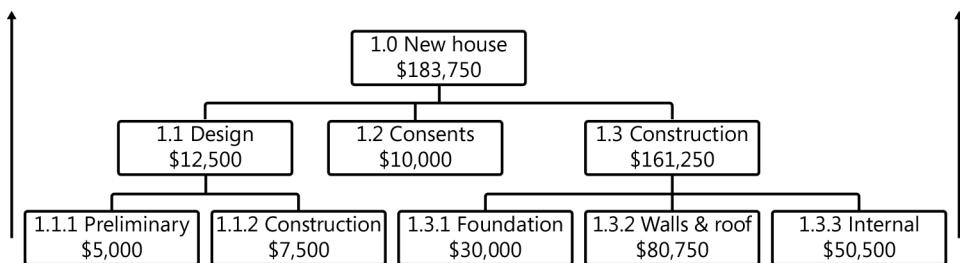

FIGURE 5-2 In bottom-up cost aggregation, individual activities are added up, or aggregated.
*Cost aggregation* is the process of taking the individual estimates for each of the activities and aggregating upward to work package level, then rolling these estimates up to high level, sub-deliverable level, and deliverable level, in order to arrive at a bottom-up estimate for portions of the project or the entire project. Figure 5-2 shows how individual activities are added up, or aggregated.